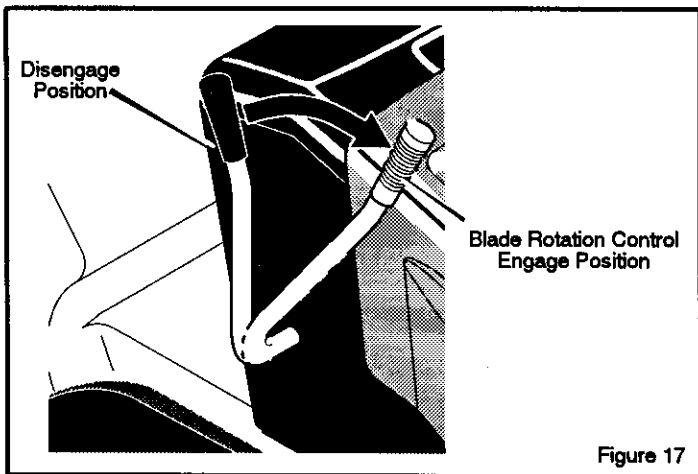

Figure 17
2. Move the **blade rotation control** to the **DISENGAGE** position (Figure 17).